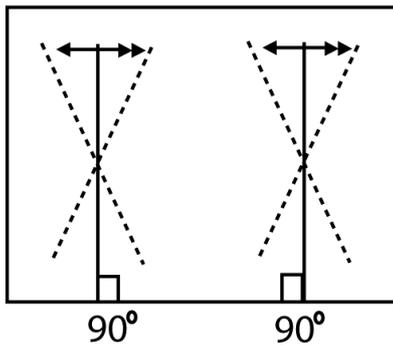

Fig. 3a
2. Confirm the vertical line to straight as in fig. 3a, if needed adjust Angle